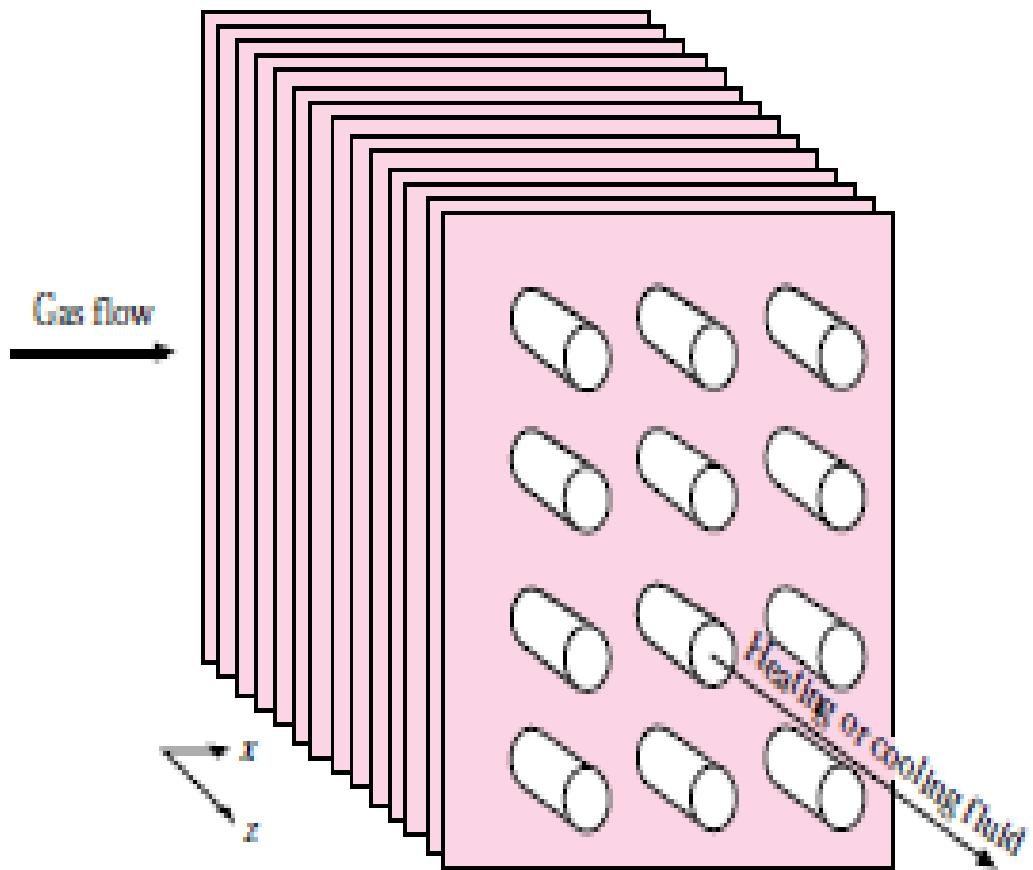

Figure 1: Cross-flow HE with Unmixed fluids ( **Problem 15**).
**Problem 15:** A finned-tube heat exchanger (Fig. 1) is used to heat  $2.36 \text{ m}^3/\text{s}$  of air at 1 atm from  $15.55^\circ\text{C}$  to  $29.44^\circ\text{C}$ .